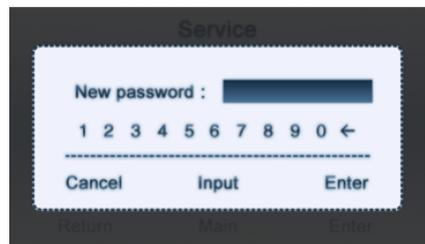

Figure 10
- D. If the “original password” is entered successfully, a window will pop out as shown in Figure 10 prompting “New password”; enter the password in the same way as described above and then press “Enter” key again to confirm successful setting of new password or press “Cancel” key to cancel the password setting.